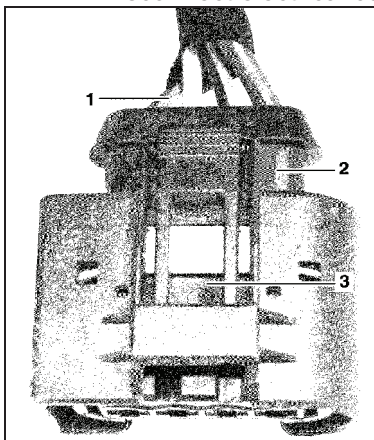
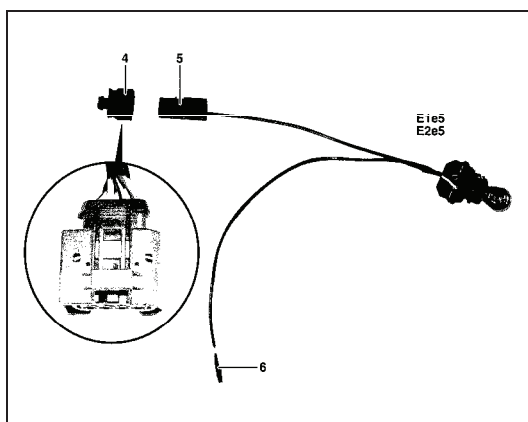
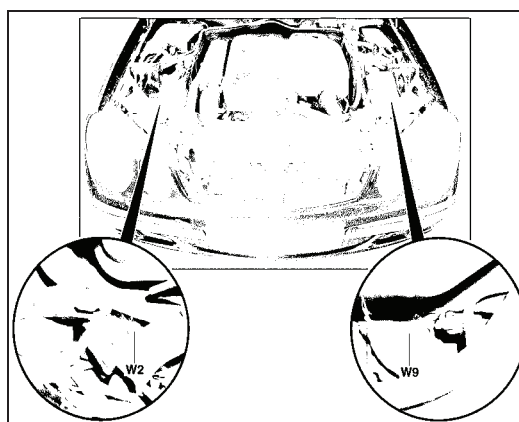

Figure 1 P-B-82.10/258
Figure 2 P-B-82.10/258
Figure 3 P-B-82.10/258
4. Disconnect electrical connector (Figure 1, 2) from headlamp housing.
5. "Un-pin" turn signal wire (Figure 1, 1) from connector (Figure 1, 2). Open lock (Figure 1, 3), otherwise the contacts will be damaged. Left side, pin 4 is grey/black. Right side, pin 4 is black/green. Refer to WIS Document AR00.19-P-0120-02B.
7. Insert "un-pinned" turn signal wire (Figure 1, 1) for turn signal lamp into chamber 2 of contact housing (Figure 2, 4) from repair kit. Prior to assembly, check individual gaskets for damage.
8. Reconnect contact housing (Figure 2, 4) with connector (Figure 2, 5). Housing must audibly click into place.
9. Connect cable eyelet (Figure 2, 6) of the repair kit with the component compartment ground (Figure 3, W2) if repairing the right turn signal or the component compartment ground (Figure 3, W9) and if repairing the left turn signal.
11. Connect connector (Figure 1, 2) with headlamp housing. Insure the electrical connector is correctly seated in seal.